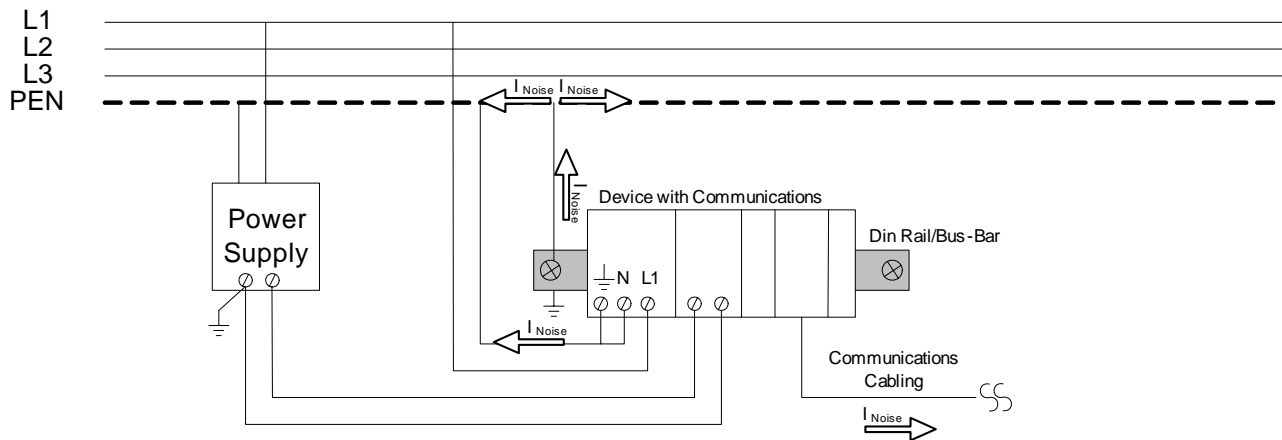

Figure 3.12 TN-C wiring and ground scheme.
This wiring scheme is not recommended for installations that employ communications circuits. Figure 3.12 shows how protective earth (PE) and Neutral are combined into one conductor. As a result, the noise generated by the loads (devices) is normally returned on Neutral. Devices that have PE connections are connected to this conductor. When PE and Neutral are one conductor, then the ground or PE also has the noise. Each device has its own noise contribution to this PEN conductor, causing additional noise currents and offsets between devices. The noise voltage offset currents will then flow between devices. Where communications cabling is part of the system, and in particular shielded cabling, some portion of the noise currents will be found in the communications cabling. This will have lesser effect on UTP-type cabling as the currents will be in the form of common mode.